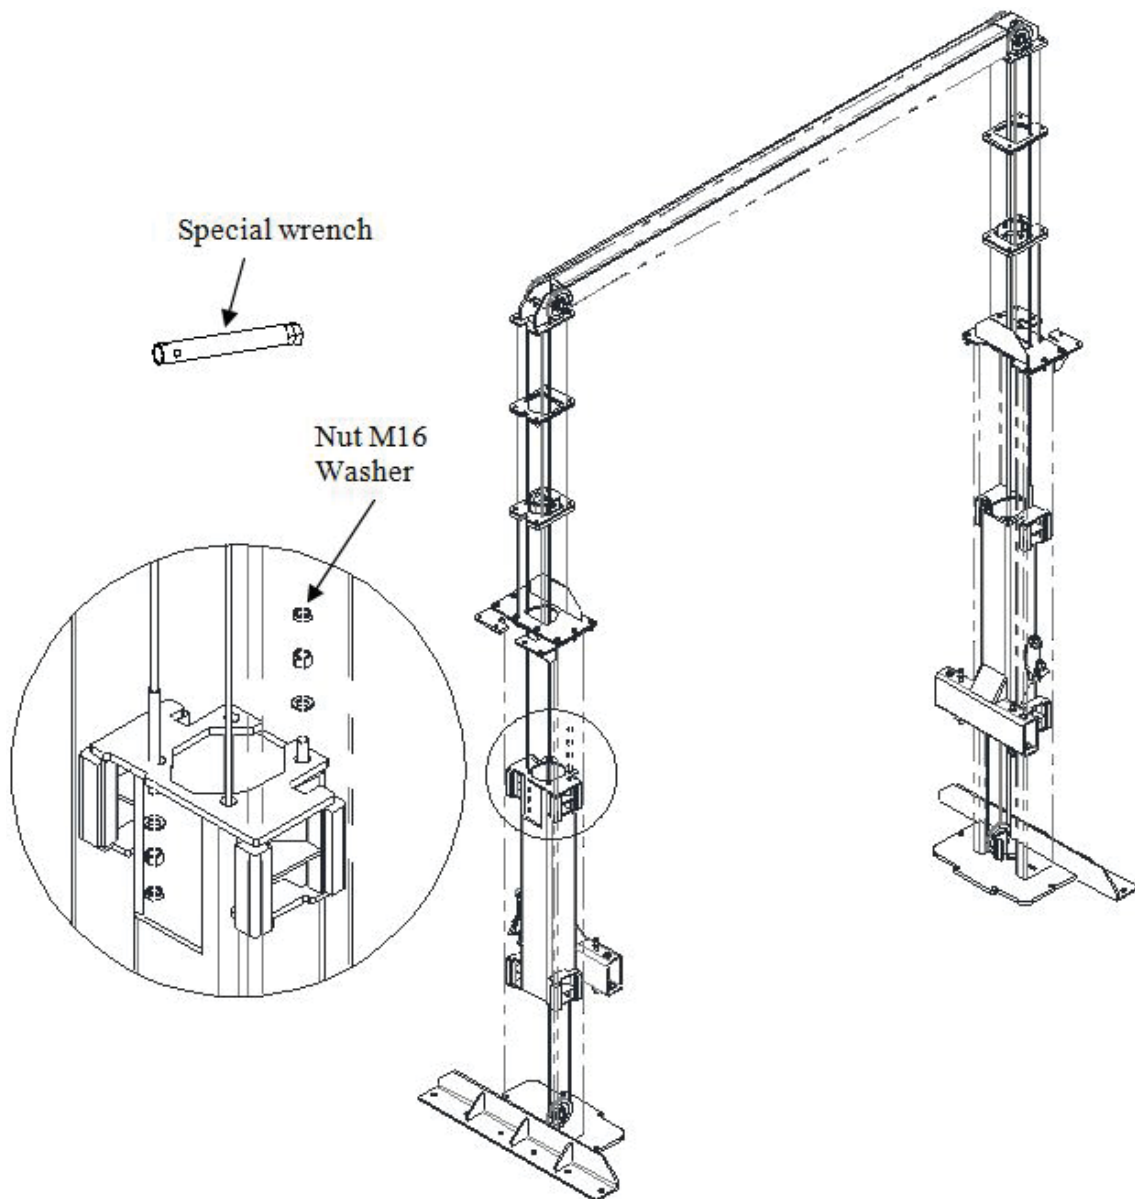

Figure 11 – Routing Equalizer Cable
7.10 Routing Equalizer Cables (Ref. Fig. 11)